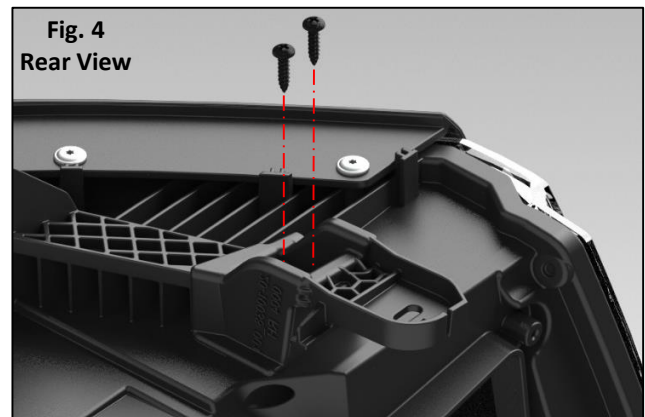

Fig. 4
4. Install: Install the prepared tab(s) ensuring a flush fit to the housing **Fig. 4**. Next, drive the 5/8" screws at the location marked (A). **DRIVE SCREWS MANUALLY. APPLY GLUE TO SCREW THREADS BEFORE DRIVING.** Do not overtighten screws. Allow the glue to cure for approximately 30 minutes before installing the repaired headlight on the vehicle.